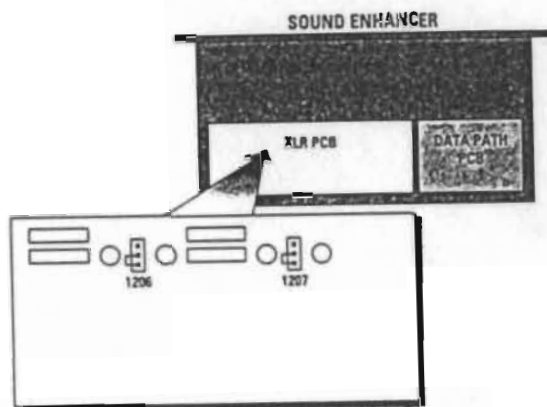

Figure 4.11 Location of jumpers (factory settings shown).
3. Locate the XLR PCB (see figure 4.11)